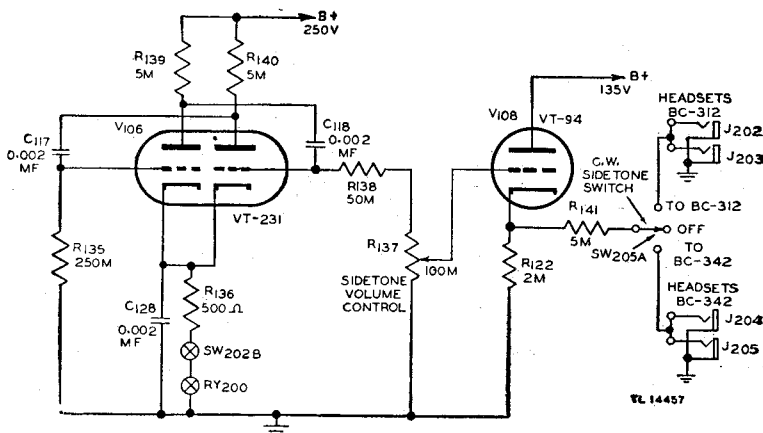

Figure 83. Sidetone oscillator circuit—functional diagram.
a. SIDETONE OSCILLATOR (fig. 83). Tube  $V_{106}$  (Tube JAN-6SN7 (VT-231)) is connected in a multivibrator circuit. Its purpose is to generate a sidetone signal for monitoring the c-w transmission. When the transmitter is keyed, the cathode circuit
b. SIDETONE AMPLIFIER (fig. 83). Tube  $V_{108}$  (Tube JAN-6J5 (VT-94)) is connected as a cathode-follower amplifier. Its purpose is to isolate the headphones from the sidetone oscillator and to provide a low-impedance output to which the headphones are connected. This stage, strictly speaking, is not an amplifier because theoretically the gain of the stage can never exceed unity and practically the gain of a cathode-follower stage is in the range of 0.6 to 0.8. In this type of amplifier, the plate of the tube is connected directly to  $B^+$ ; and the cathode-bias resistor serves as the load resistor.
d. SIDETONE VOLUME CONTROL. The sidetone volume control (fig. 83) is located on the rear side of the speech-amplifier chassis. Its purpose is to